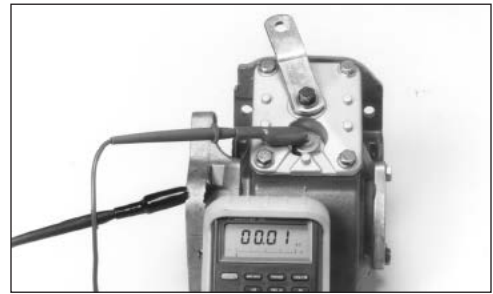

Figure 22
1. Use a continuity checker, battery type, either meter or light. Attach one (1) probe to the screw on the Indicator Switch.
2. With the other probe, make contact with the shifter cover or housing (**Fig. 22**).